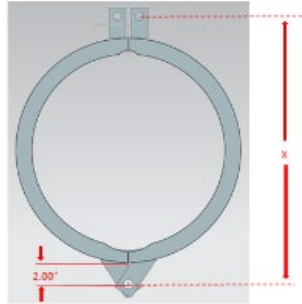

Figure 17: Marking Location for Clamp Ring Arms
- E. Weld two (2) new clamp ring stops according to the closure assembly drawing.
- A. Mark the location of the lower clamp ring arms on the closure. Each arm is offset of the other along the center line of the clamp ring, see Figure 17.
- E. Verify alignment by measuring the vertical distance from the center line of the lower clamp ring arm through holes to the upper clamp ring arm through hole. The correct distance is listed on the clamp ring assembly print as X, see Figure 17.